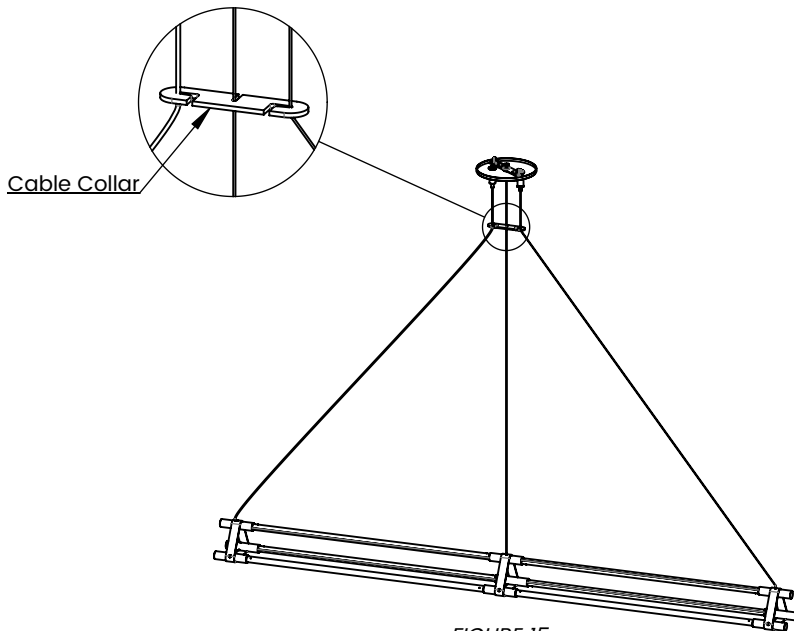

FIGURE 15
2. Install the cable collar as shown in Figure 15.